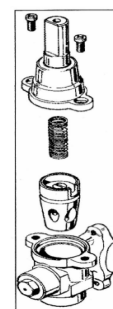

Fig.10
- 1) Dismantle the main part of the tap by unscrewing the two screws that can be found on the bar of the tap itself. (Fig.10)